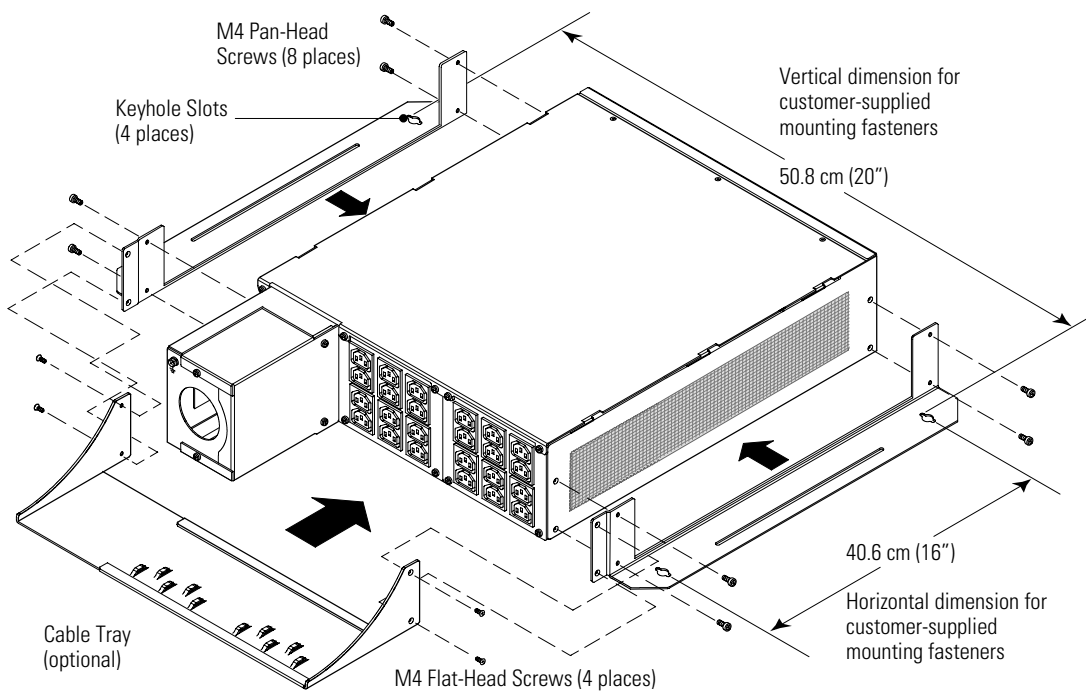

Figure 2. Wall-Mount Installation (Hardwired Unit Shown)
2. Locate an area on the wall suitable for mounting the RPM-3U/3Ui. See Figure 2 to mark the locations on the wall for the customer-supplied mounting fasteners.
3. Secure the two wall-mount brackets to the RPM-3U/3Ui with the supplied eight M4 pan-head screws (see Figure 2).
4. (Optional) Secure the cable tray to the wall-mount brackets with the supplied four M4 flat-head screws (see Figure 2).